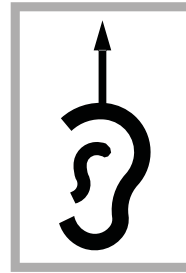

Figure 5
5. When using the thermometer on infants under age 1, pull the ear up making sure the sensor faces the eardrum. (See Figure 5)